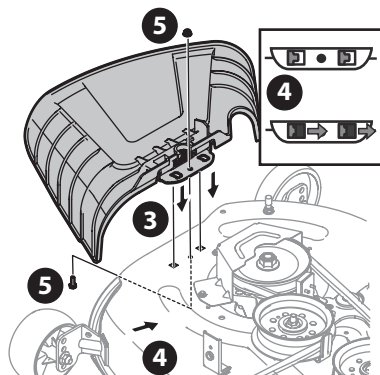

Fig. 10
- Place the chute deflector on the deck, be sure to insert the tabs on the chute deflector into the holes on the deck (Fig. 10).
- Slide the chute deflector toward the rear of the tractor until the bolt hole in the chute deflector aligns with the hole in the deck (Fig. 10).